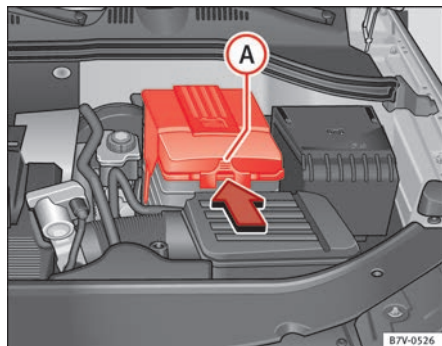

Fig. 173 In the engine compartment: Remove the cover from the vehicle's battery.
- *In the case of a cover:* press the tab ⇒ fig. 173 **A** in the direction of the arrow and pull the cover upwards.